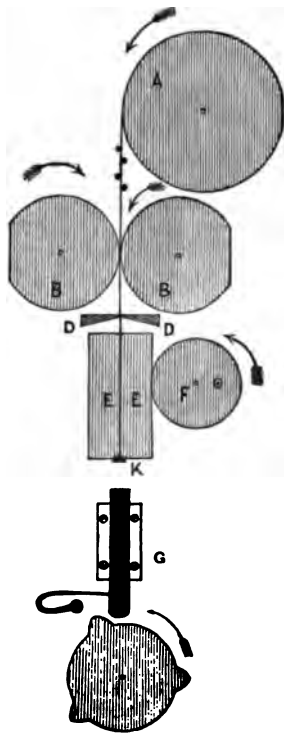

Fig. 54.—Machine for making Pins.
with the aid of a drawing or two; but the details of pin-making machines vary according to the many patents by which, from time to time, the different contrivances for pointing, heading, cutting off, &c., have been protected since Wright's first invention was established in 1820. The simplest way will therefore be to give a plan of the different parts, omitting the framing, and not confining ourselves precisely to any single patented machine. The several processes will be—(1) Straightening the wire; (2) drawing forward enough for one pin; (3)—holding it fast that (4) it may be headed; and it has then (5) to be cut off, (6) pointed, and then lastly delivered into boxes or baskets as a complete pin, requiring only to be whitened, finished, and packed for sale. A single machine now accomplishes the whole of these operations except the two last, viz., the whitening and finishing. The insertion into papers in rows is now done by machinery also. The brass wire is wound upon a slightly conical reel (A, fig. 54), which revolves upon an upright axis or pin fixed at the back of the machine. This may be called the “feed,” which is rapidly drawn into the insatiate maw of the machine, to be metamorphosed into the article in question, which article we take as the representative of inappreciable value, simply because the supply is so prodigious. To obtain such valueless article has, nevertheless, cost a mint of money, and much wear and tear of mind and brain.